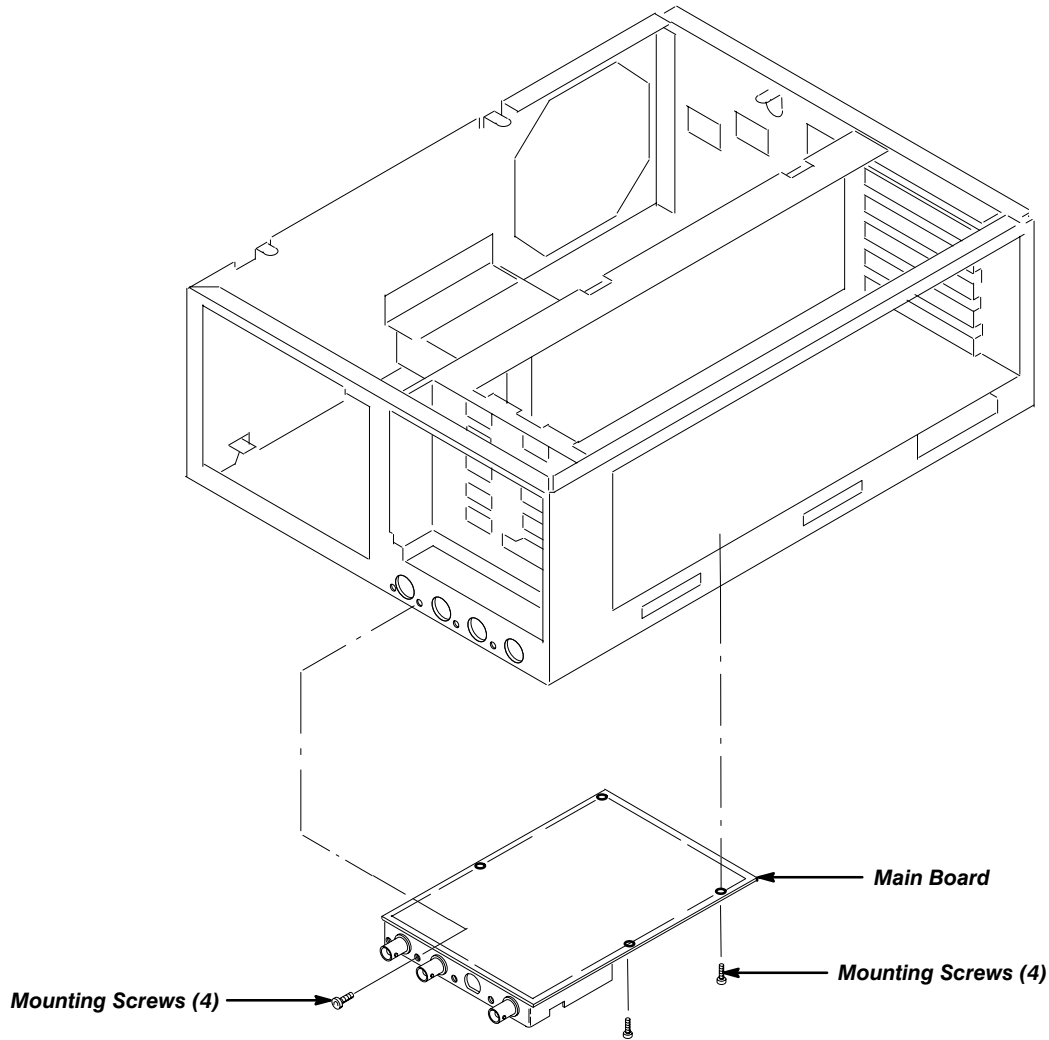

**Figure 6-9: Disassembly of Front-Panel Assembly**
11. Release the three snap locks at the edge of the circuit board, then tilt the board away from the assembly until it unplugs from J405. See Figure 6-9.
13. Hand disassemble the front-panel-assembly components using Figure 6-9 as a guide. Reverse procedure to reassemble.
14. Using Figure 6-9 as a guide, grasp (compress) the base of the ground spring (to release the spring) with tweezers (Item 7) and pull the ground spring away from the assembly.